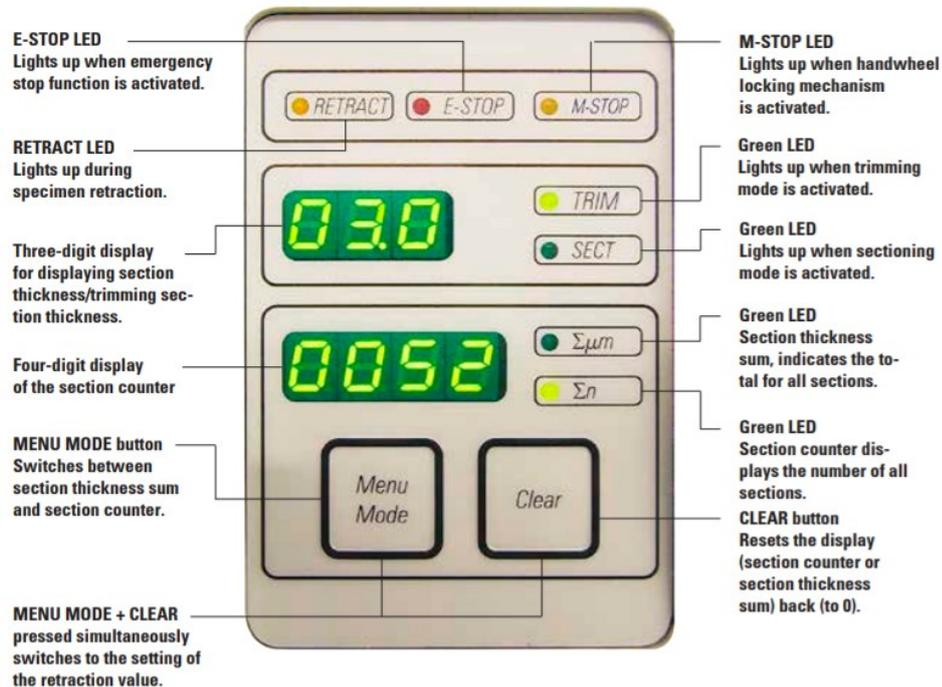
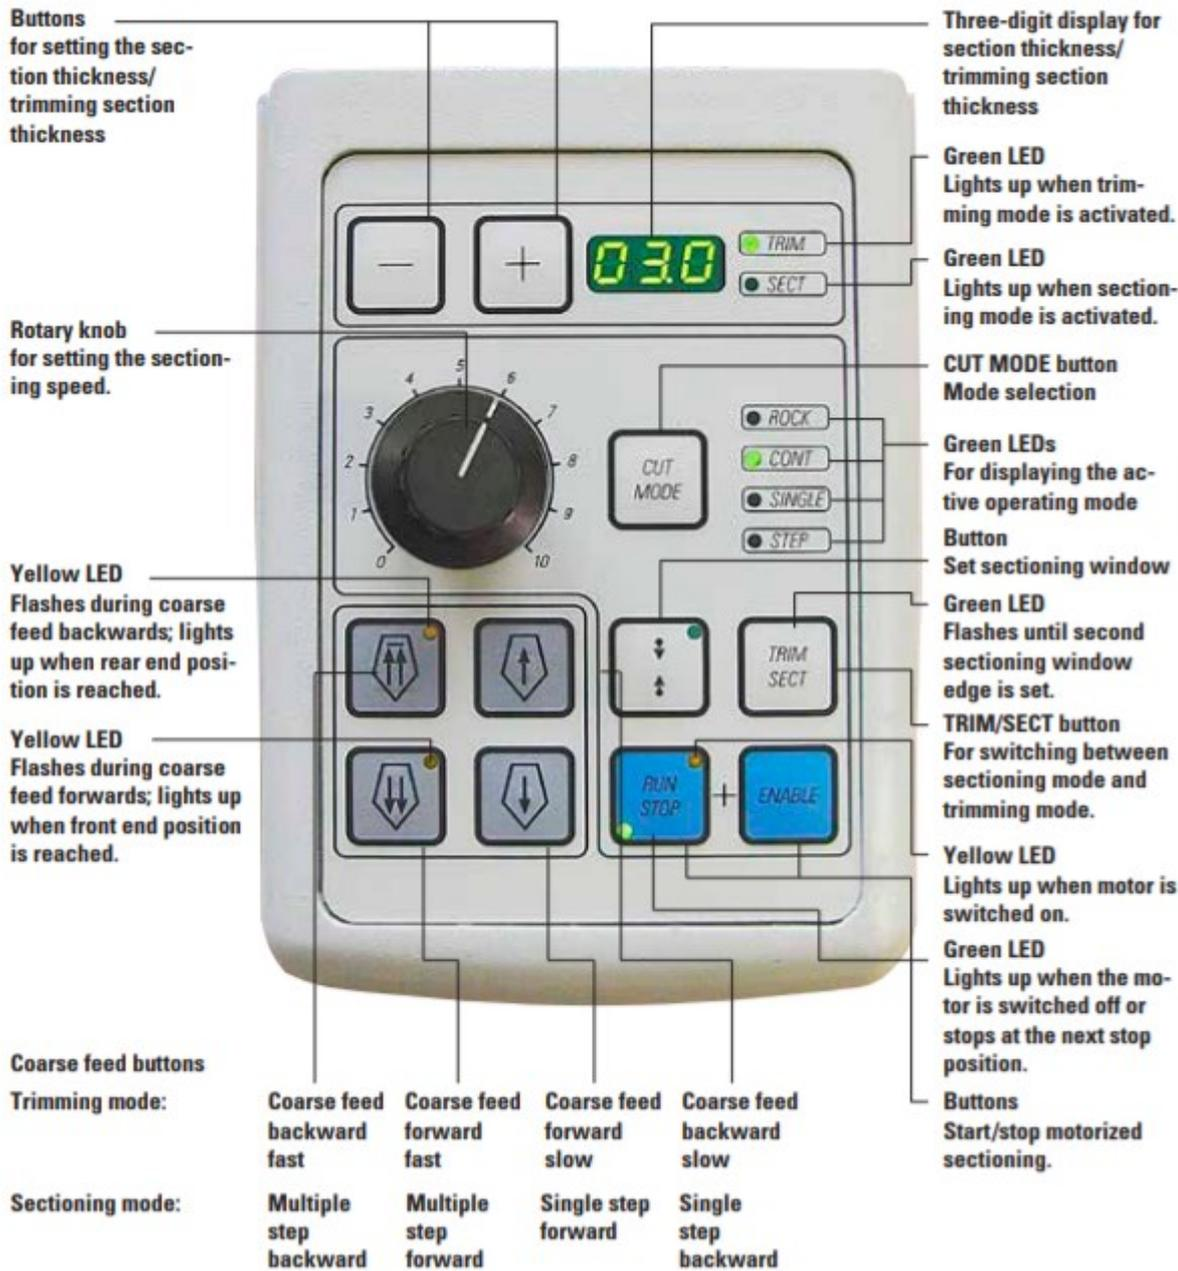

Figure 3 Instrument control panel
Figure 4 Remote control panel
4.3 Instrument control panel (Figure 3) and remote control panel (Figure 4)
- Three-digit display (Figure 3)
- Selecting the sectioning and trimming mode (Figure 3)
- Setting the section thickness/trimming section thickness (Figure 4)
- Coarse feed functions (Figure 4)